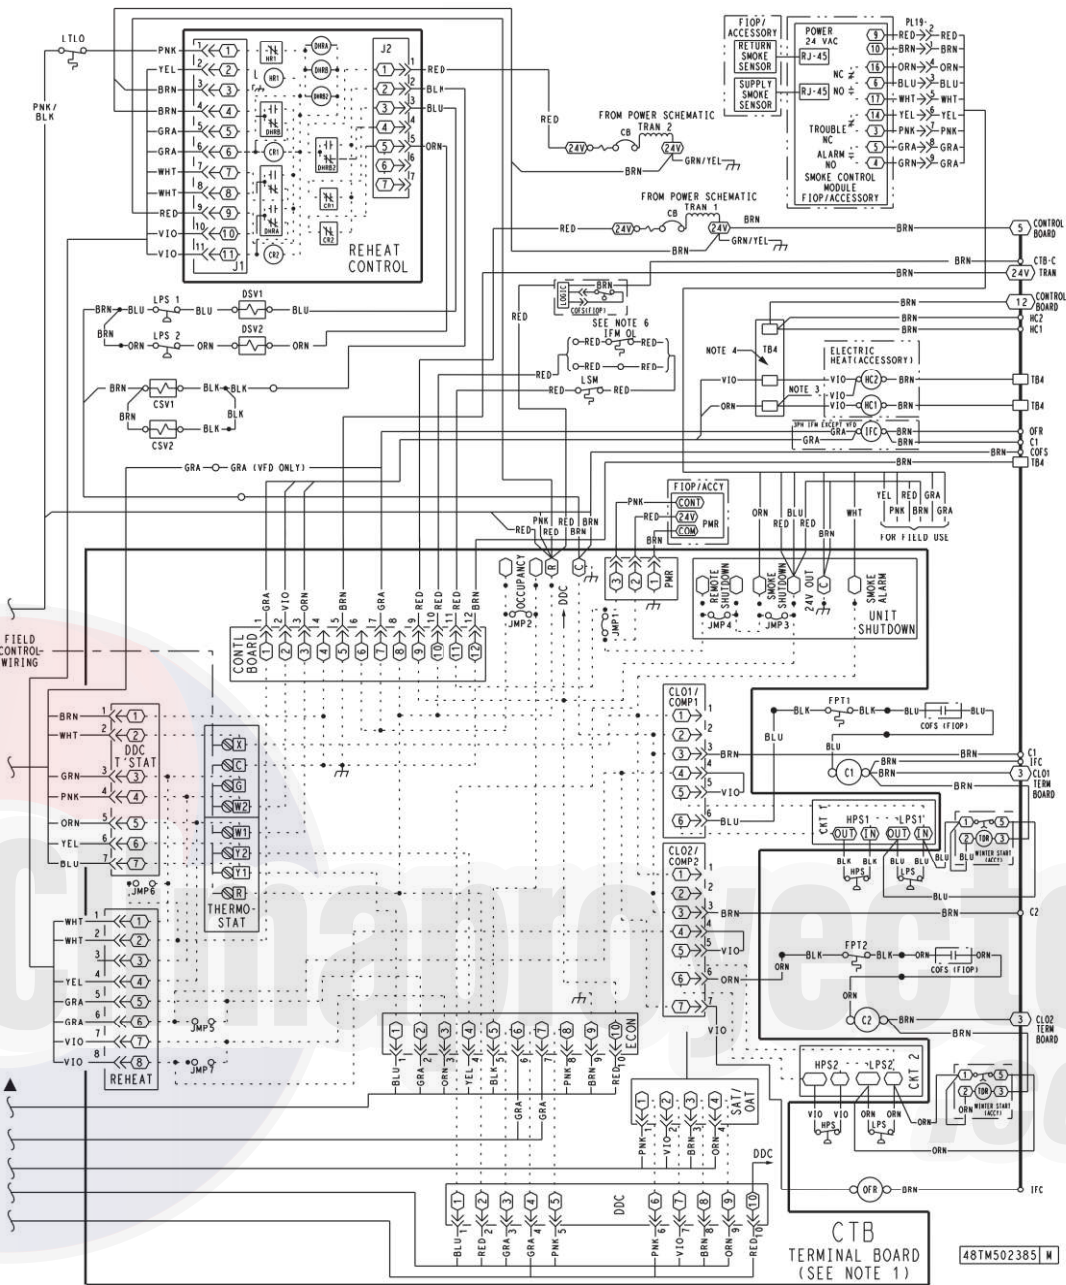

Fig. 60 — Typical Perfect Humidity™ Adaptive Dehumidification System Humidistat Wiring 558J*08-14 Unit Sizes
3. Use wire nuts to connect humidistat cable to two PINK leads in the low-voltage wiring as shown in Fig. 60. Refer to the instructions for the field-supplied humidistat for more information.